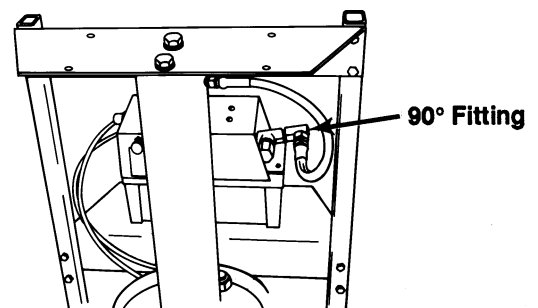

Figure 2
5. Using a wrench, turn the 90° fitting on the pump toward the cylinder. See Figure 2.